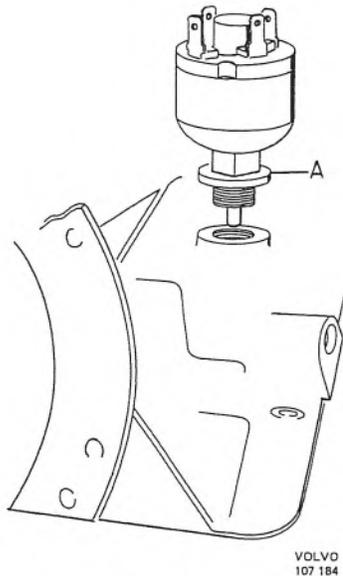

Fig. 4-65. Fitting starter inhibitor contact
2. Fit a new packing (A, Fig. 4-65) on the contact. Screw in the contact and tighten it with the spanner 2975. Hook up the electric cables.